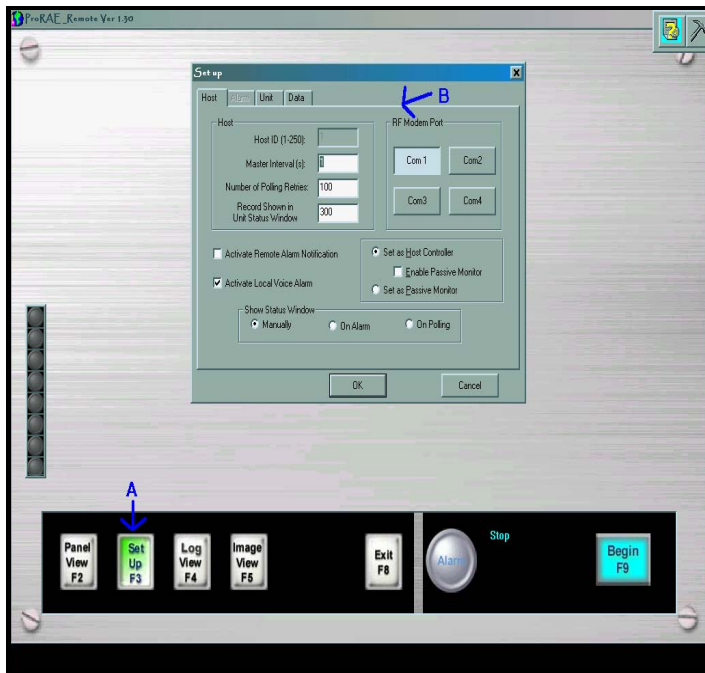

Figure 2. Set Up>>RF Modem Port. Press F2 (A) to activate 'Set Up' dialogue box, and proceed to select communication port that the RAE Link is plugged into (B).
- COM PORT:** The same communication port that the RS232 cable is plugged into must be selected in the software. Within the ProRAE Remote proceed to 'Set Up' (A)>>'Host'>>'RF Modem Port' (B) (Figure 2, Page 2). Refer to TN-170 for more detailed setup instructions including using USB ports. The chosen communication port must be functioning properly and cannot be occupied by another program. To verify the functionality of the communication port, RAE Systems Com Port Checker Kit (part #029-0005-000) can be used. Simply follow the instructions provided with the Checker Program.